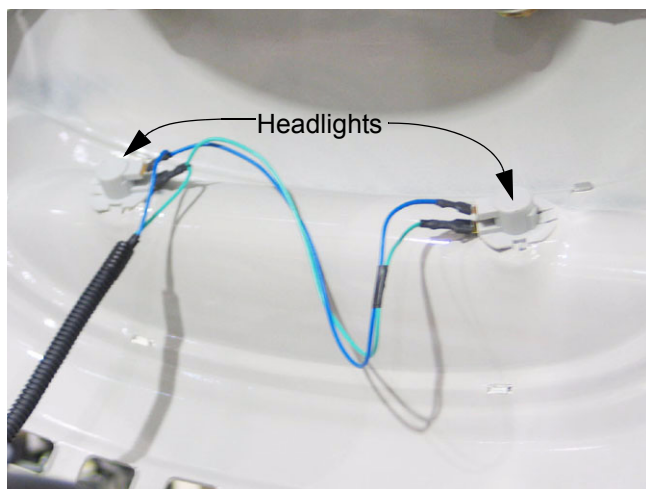

Figure 17.31
17.31. The **lighting circuit** is hot whenever the engine is running. It does not draw from the battery, but runs directly off its own circuit on the alternator. See Figure 17.31.